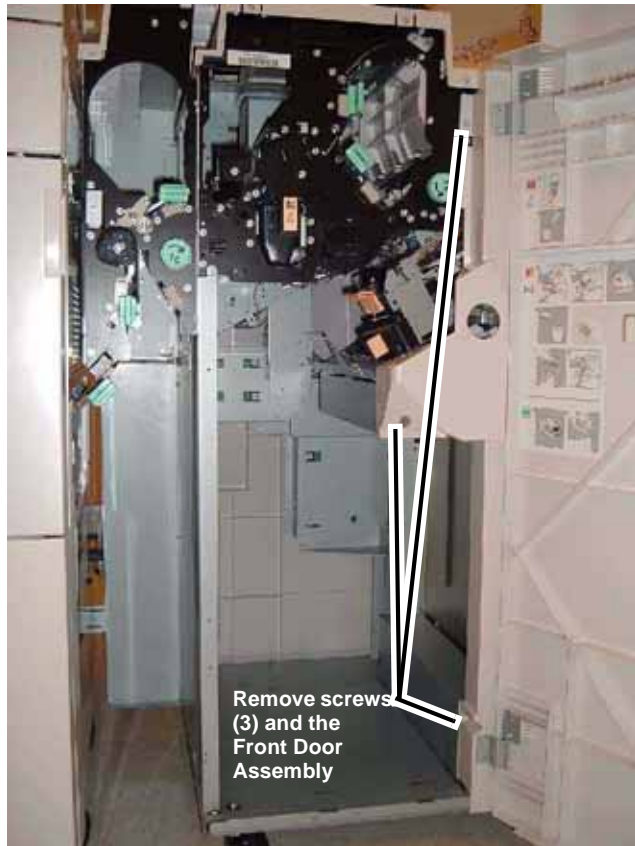

Figure 1 Removing the Front Door Assembly
2. Remove the Front Door Assembly (Figure 1).